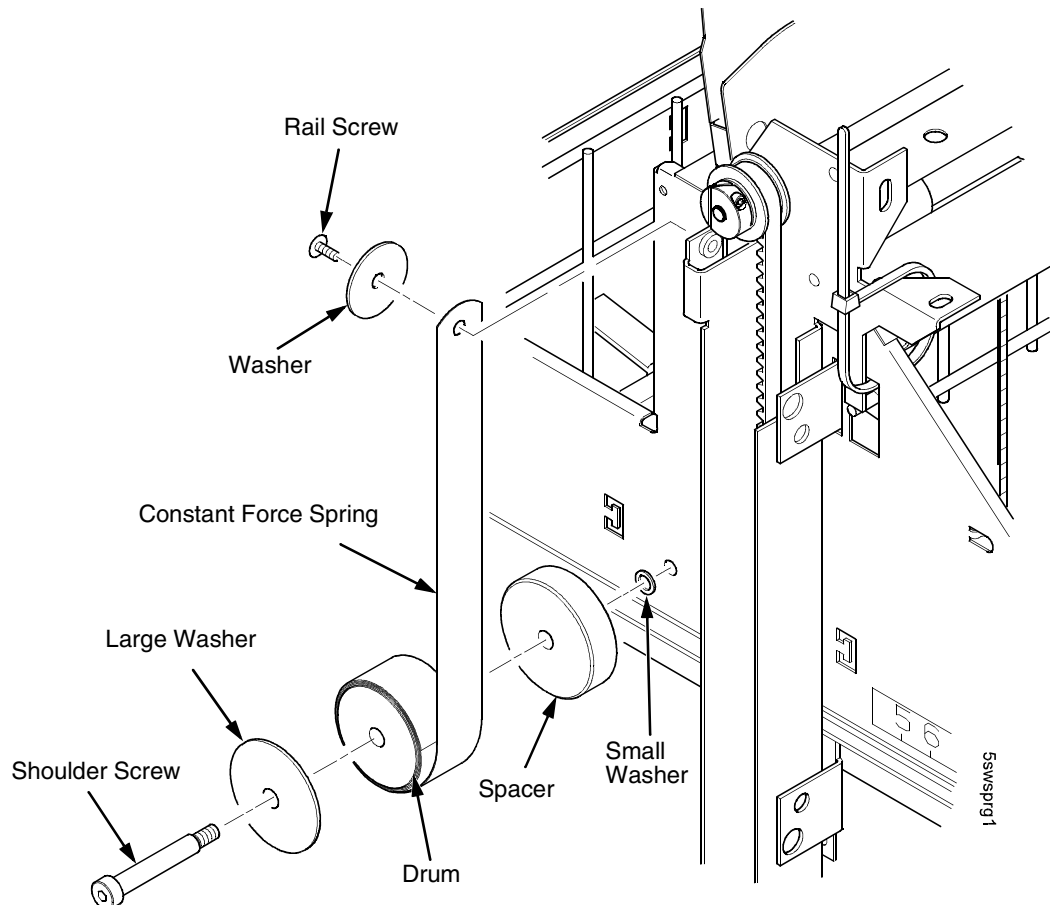

Figure 94. Removing and Installing the Constant Force Spring
3. Remove the shoulder screw, large washer, spacer, and small washer from the constant force spring and drum. Let the spring coil itself up until it reaches the top of its travel on the vertical rail. (Figure 94.)
4. Firmly gripping the spring and drum, remove the rail screw and washer securing the spring to the vertical rail. (Figure 94.)
5. Position a new constant force spring on the vertical rail and install the rail screw and washer. (Figure 94.)
6. Install the shoulder screw, large washer, spacer, and small washer as shown in Figure 94.